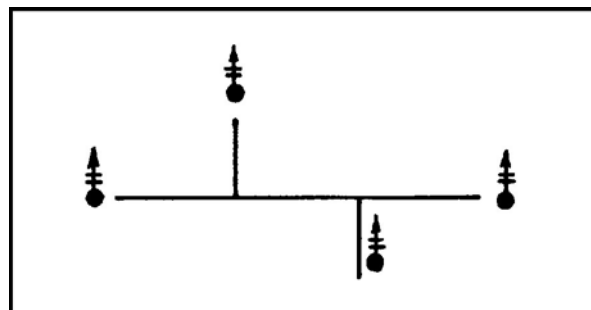

Figure 2. Lazy W Formation
- a. The lazy W formation (Figure 2), which employs the 4.2-inch, 81-mm, and 120-mm mortars on a modified line, provides wide coverage to the front and rear, but poor coverage to the sides. The lazy "W" needs an area at least 150 meters wide and 50 meters deep. It is a good formation for conventional warfare.